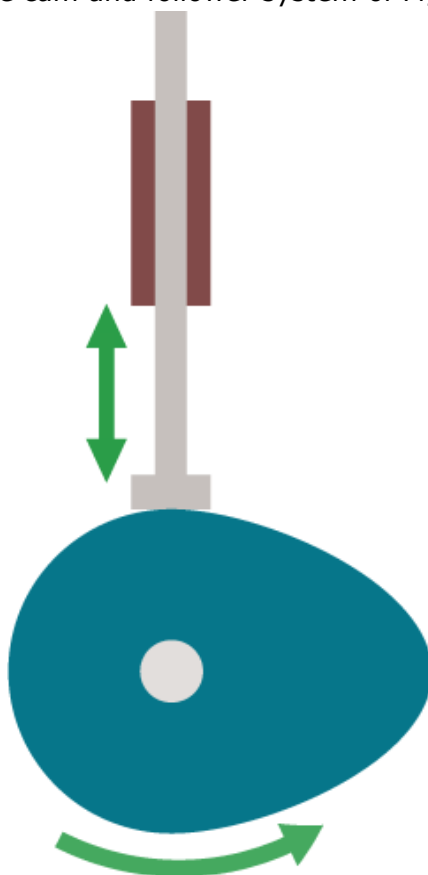

Figure 3: Cam and Follower System
c. Describe **TWO** motions in the cam and follower system of Figure 3.